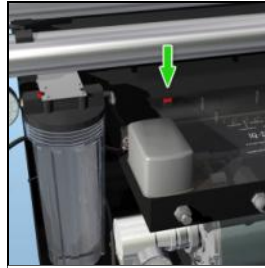

Figure 15. Press reset button on main panel
7. Press the reset button on the IQ-EMP panel. **See figure 15.**